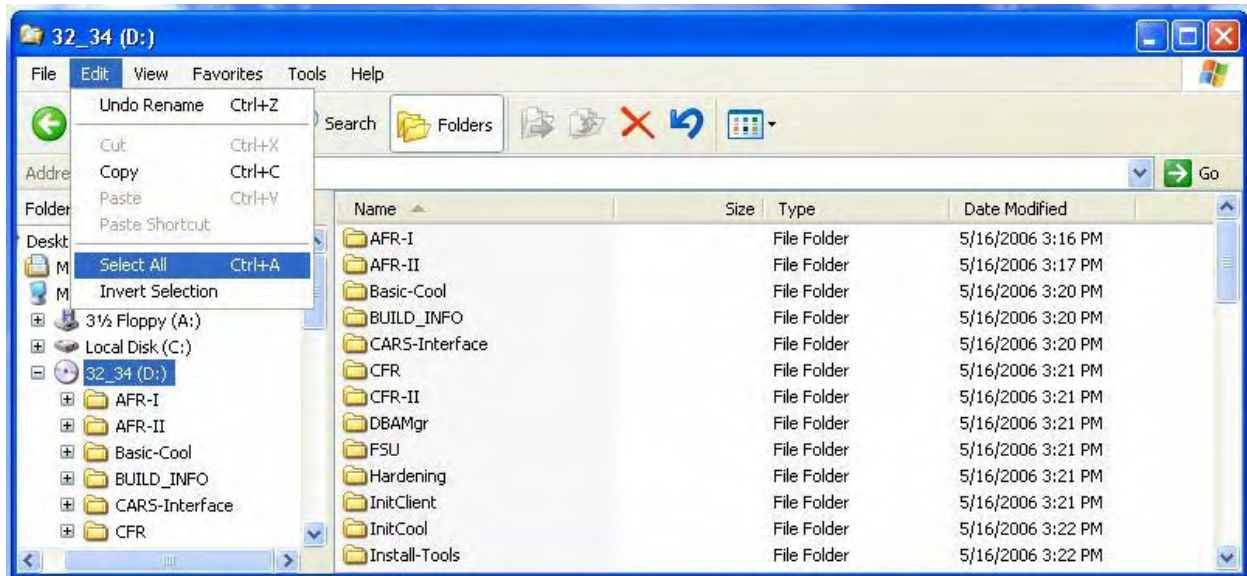

Figure 1-74. Explorer Window – Select All Folders
3. Open CD drive and insert "PARS IMS 4.0.1 P&DC, PARS IMS/AFR Software Installation Kit (CD): Version 4.01, (Build: 32.51), P/N 600-2553-000ODT, Volume 1 of 1".
5. In the Explorer window's left pane, locate the CD drive, click on it and select **Edit** and **Select All** on the menu bar (Figure 1-74).